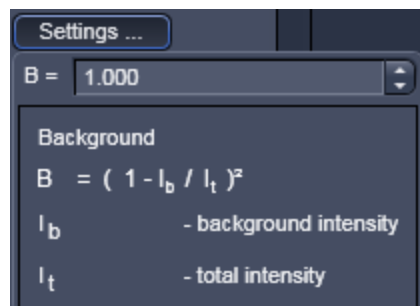

Fig. 252 Background Settings panel
- You can set an offset by setting a value in the **Background** selection box (Fig. 252). Either type in a value or use the arrows.